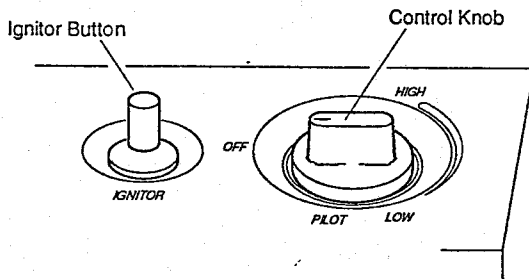

Figure 17 - Control Knob In The OFF Position
4. Wait five (5) minutes to clear out any gas. If you then smell gas, STOP! Follow "B" in the safety information at the top of page 16. If you don't smell gas, go to next step.
5. Press in control knob and turn counterclockwise  to the PILOT position. Keep control knob pressed in for five (5) seconds (see Figure 17).